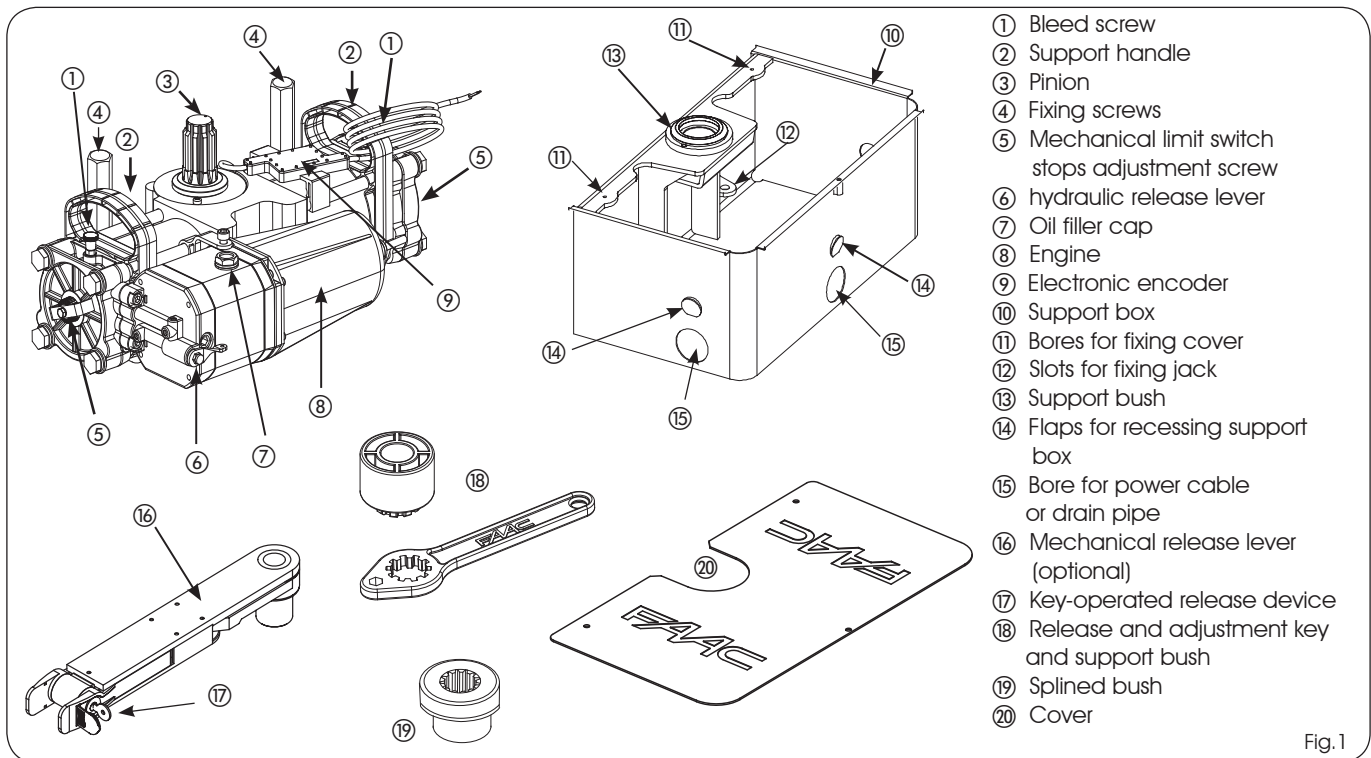

Fig.1
- 2) Referring to the instructions in chapter 7.1, act on the operator's hydraulic release by turning the lever (Fig.1 ref.⑥) or using the specific key (Fig.1 ref.⑩) turn the release screw (Fig.3 ref.①).